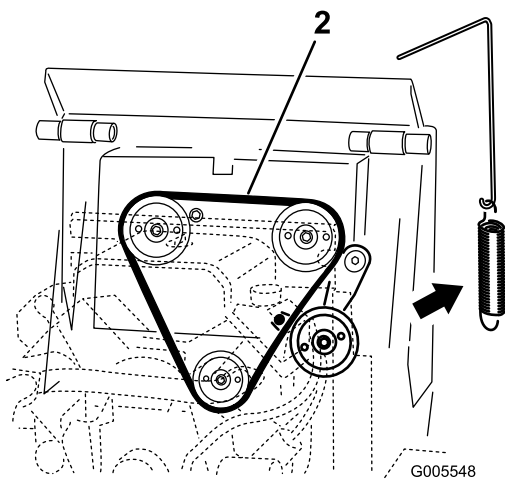

Figure 52
4. Remove the idler-pulley spring from the idler-pulley assembly (Figure 52).
6. Install a new drive belt around the 3 pulleys (Figure 52).